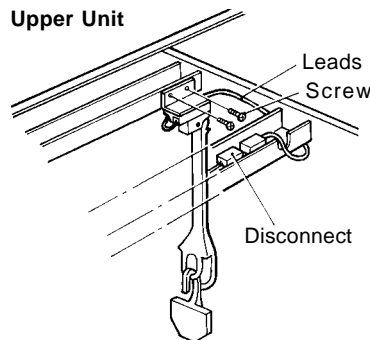

Fig. 8
10) Before stacking, remove the clear plastic cover on the upper or middle unit wiring channel. Disconnect the Bin Control Switch leads (with three-way plug). Remove the screws and the Bin Control Switch. When stacking two or three icemakers, this switch will not be required. Keep it after removal. See Fig. 8.